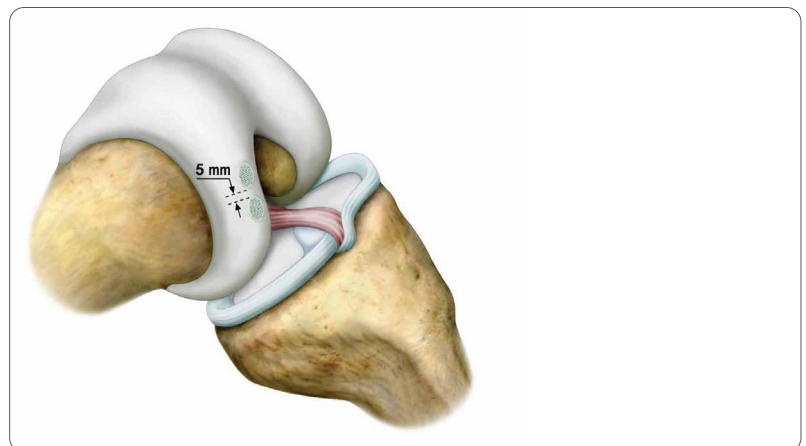

Figure 14
14. When multiple CARTIHEAL implants are used, it is important to keep a bone bridge of at least 5mm between the implants to avoid impingement (**Figure 14**).